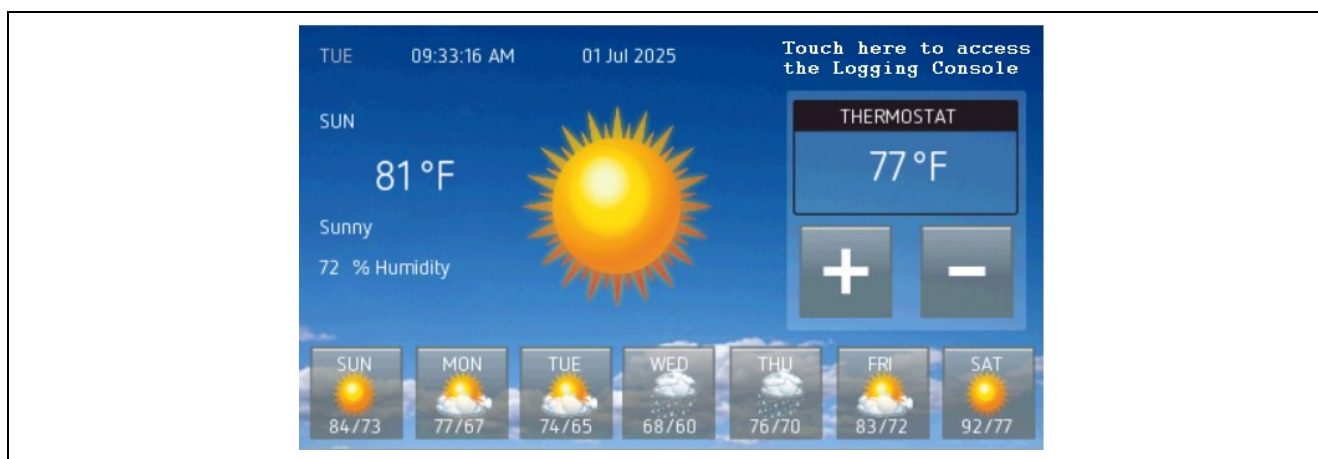

Figure 53. The Weather Panel
6. The **Weather Panel** will show as in Figure 53. You can select the forecast day or adjust the thermostat temperature. Touch the top right corner to move to the **Logging Panel**.